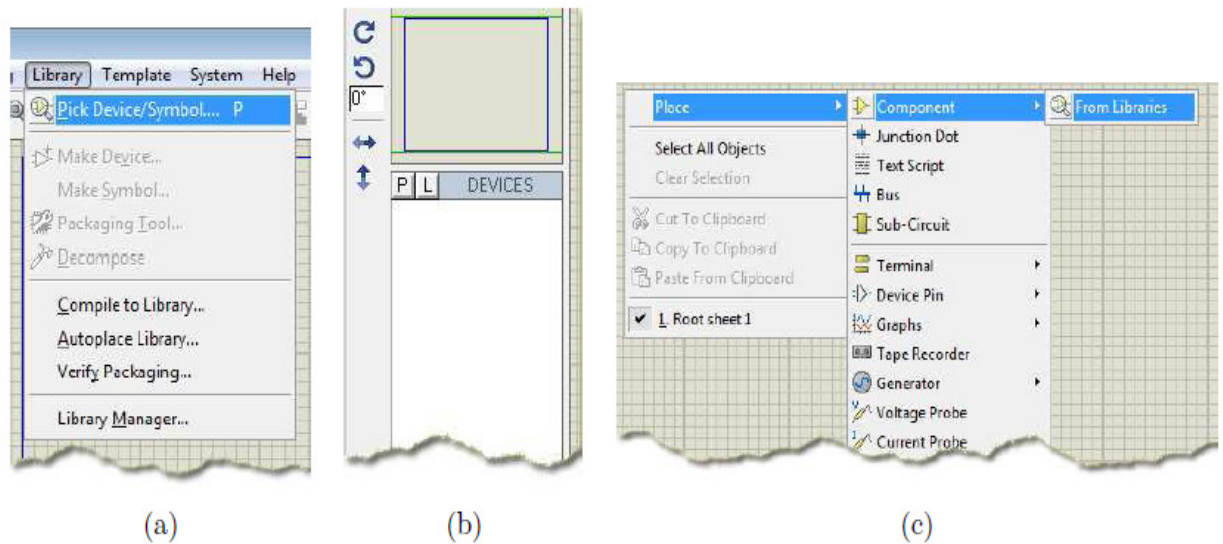

Figure 4.8 – Selecting Components. (a) library menu, (b) parts button, (c) place menu.
- Click on the *Library* drop-down menu in the ISIS menu bar, and then click on *Pick Device/Symbol* as shown in Figure 4.8(a).
- Click on the *P* button at the top left of the Object Selector as shown in Figure 4.8(b).
- Right click the mouse on an empty area of the schematic and select *Place* → *Component* → *From Libraries* from the resulting context menu as shown in Figure 4.8(c).